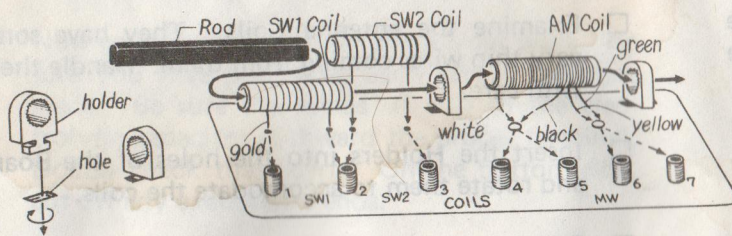

Figure 10
- Position the Coils as shown. Insert the leads down through the holes provided. (See Figure 10.)